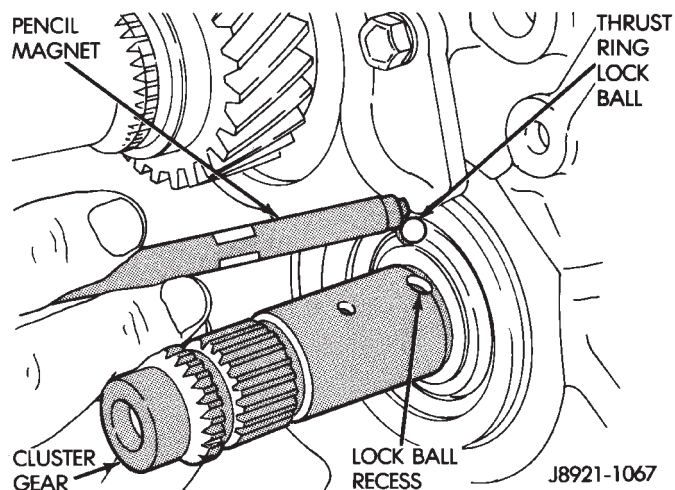

Fig. 37 Removing Thrust Ring Lock Ball
(18) Remove thrust ring lock ball with pencil magnet (Fig. 37).